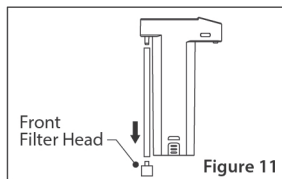

Figure 11
- To avoid affecting system performance, it is recommended that the front filter head be dismounted and cleaned on a regular basis. **(Figure 11)**